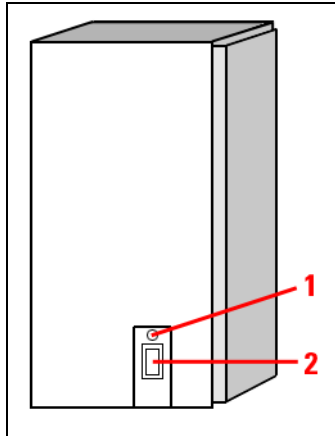

Figure 111: Microscope electronics box
11. Turn off the microscope by actuating the electronics box toggle switch (**Figure 111, item 2**). The readiness indicator (**Figure 111, item 1**) on the electronics box goes out.